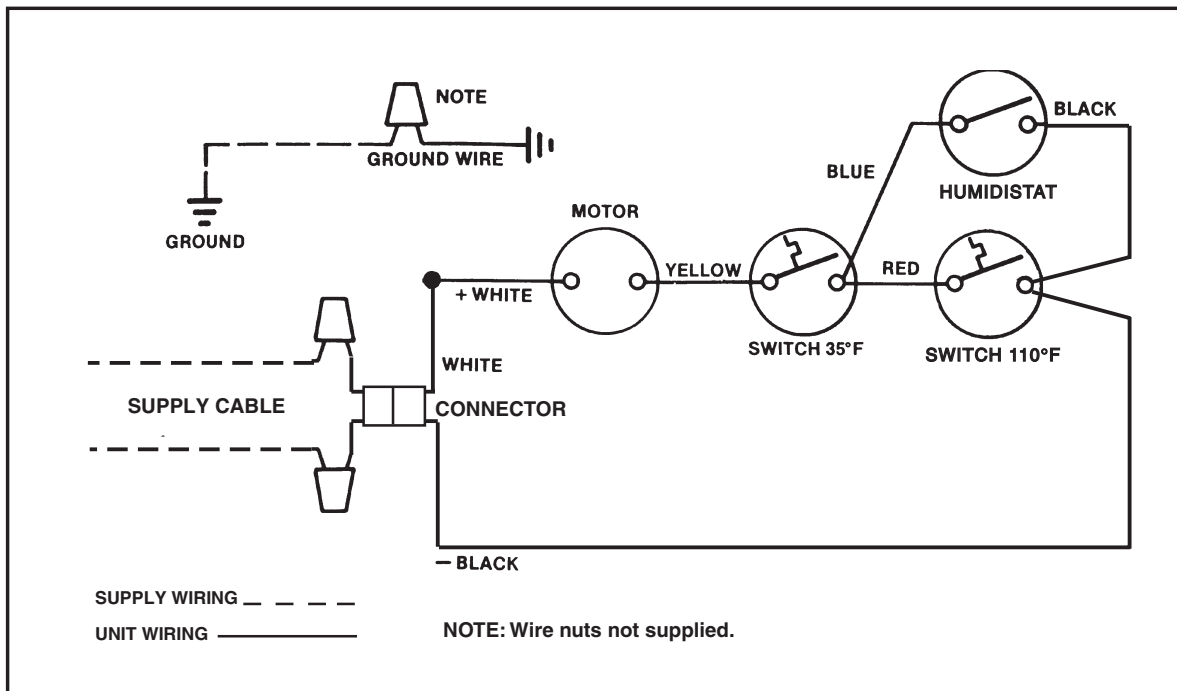

Figure 8. VentilAire IV Wiring Diagram
8. Electrical hook-up. Refer to wiring diagram in figure 8 on page 5.